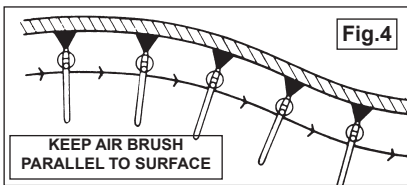

Fig.4
- 4.6 Holding the air brush about 6 inches from the surface press the trigger (Fig.2A) down. Using short strokes, move the air brush at a steady rate, parallel to the surface, fig.4.